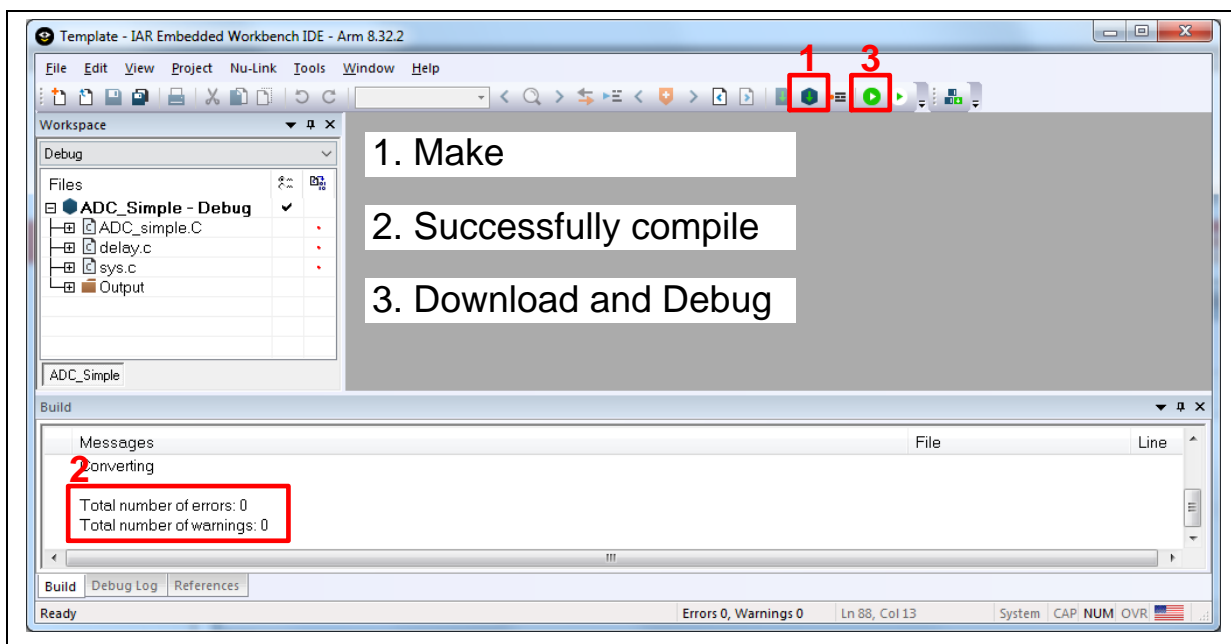

Figure 3.6-8 Compile and Download the Project
3. Make target file as presented in Figure 3.6-8. After successfully compile the project, download code to the flash memory and enter debug mode.